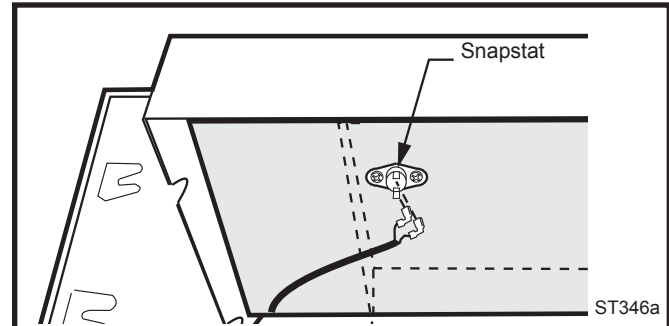

Fig. 15 Attach snapstat to inner shroud.
4. Secure the snapstat to the upper middle of the inner shroud. (Fig. 15) **NOTE:** The snapstat location may be reached through the front of the stove between the top and the firebox or you may loosen the four screws holding the rear shroud in place. Be sure to secure shroud back into place before operation.